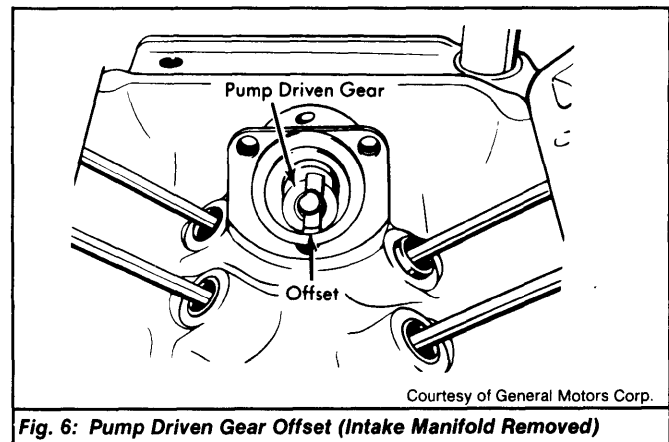

Fig. 6: Pump Driven Gear Offset (Intake Manifold Removed)
- Installation** - 1) Remove caps over fittings. Line up the offset tang on pump driveshaft with pump driven gear and install pump. See Fig. 6. Install 3 nuts and lock washers securing pump, but **DO NOT** tighten.